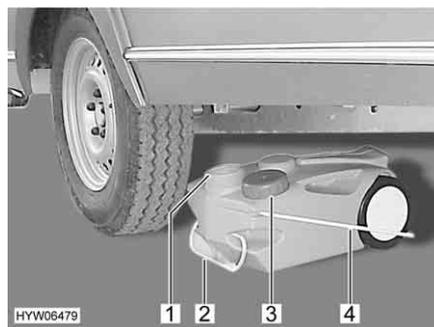

Fig. 167 Waste water tank, mobile
Emptying: ■ Use the cap (Fig. 167,3) to close the opening of the waste water tank (Fig. 167,1).
■ Use the handle (Fig. 167,2) to pull out the waste water tank.
■ Fold the carrying handle (Fig. 167,4) up and upright the waste water tank.